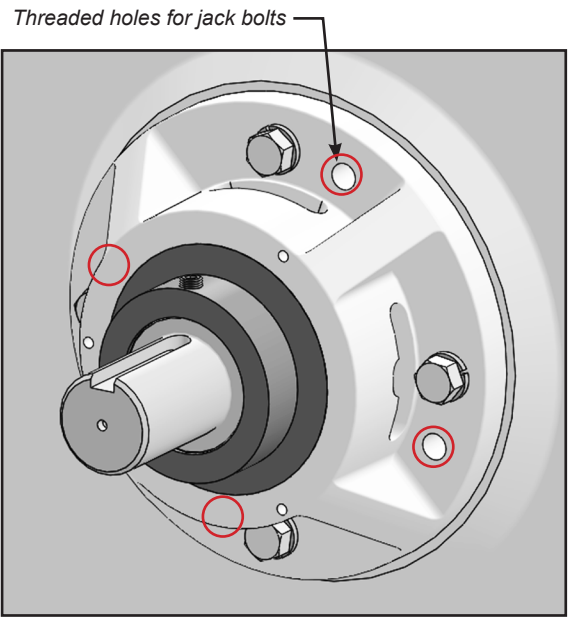

FIGURE 22
- 9. If bearing cartridge will not release from shaft, thread two or four 3/8"-16 x 2 1/2" jack bolts into opposing threaded cartridge holes to contact endplate (Figure 22 & 23).